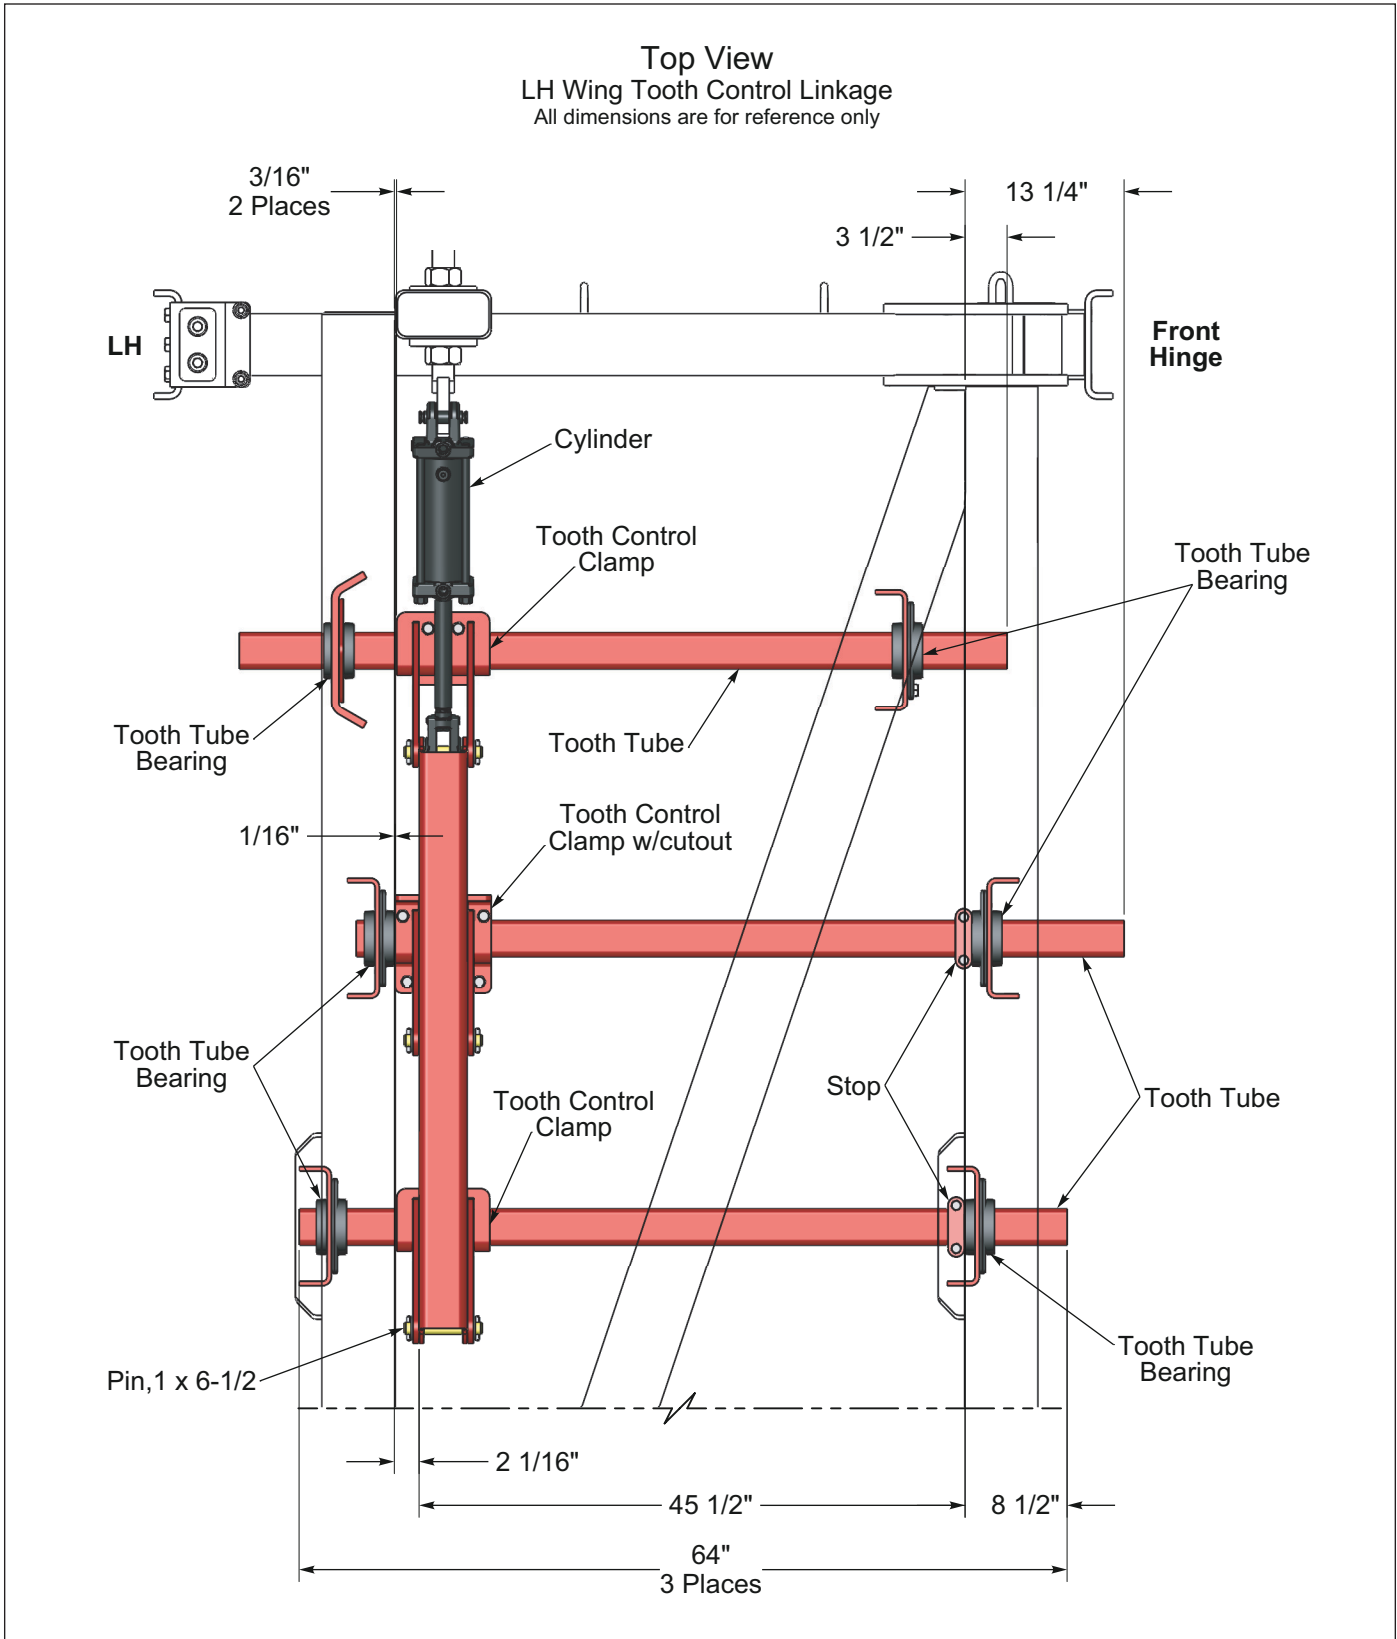

Figure 2-52: Left Hand Wing Tooth Control Linkage
2. Position Tooth Tubes in the proper lateral position to the wing frame before continuing. See **Figures 2-52 and 2-53**.
Tighten hardware after positions of clamps and tube have been verified. **See Figure 2-52.**